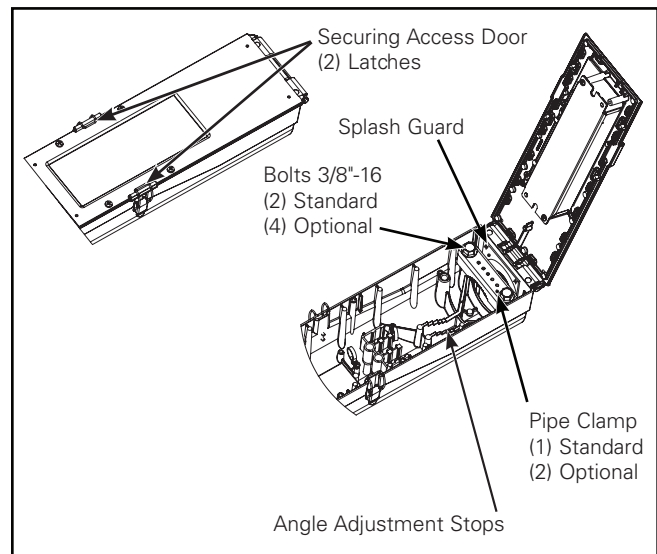

Figure 2.
**Note:** If optional lanyard is supplied, the door should not be removed. (Figure 2.)
3. Using a 9/16" socket, loosen the two pipe clamp mounting bolts enough to allow mounting arm (not included) to slide onto leveling steps. (Figure 2.)
4. Lift the housing into place and position end of mounting arm onto leveling steps so that housing is level. Care must be taken so arm does not inadvertently strike internal components. (Figure 2. & Figure 4.)